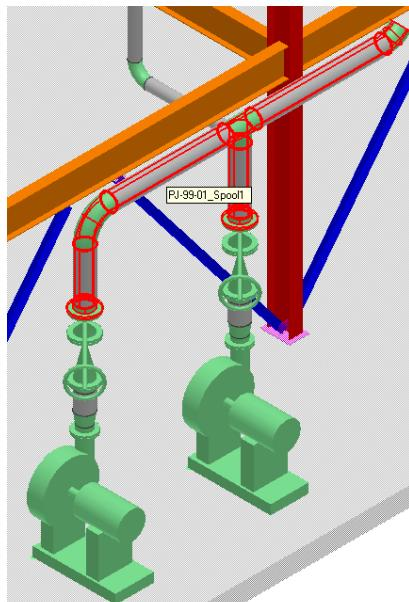

Figure 15: Generated Spool in the Graphic View
14. To view the spool you created, select the **Spools** option in the **Locate Filter** drop-down list and point to the pipeline **1001-P**. A tool tip will appear for the spool in the graphic view, as shown in Figure 15.